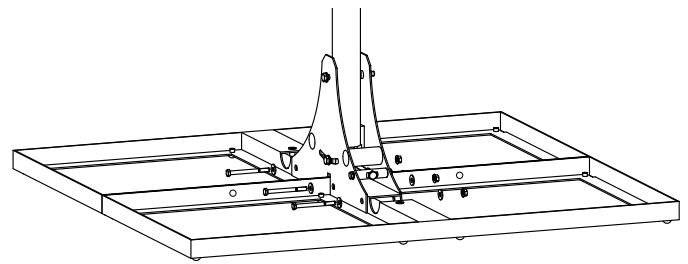

Abb. 3: Attaching the mast foot
2. Place the mast with the tripod onto the two frames so that the openings in the cross-parts of the frames are next to the openings in the mast foot (Fig. 3).
3. Insert 4 screws M8 x90 mm into the openings in the mast foot and into the separating walls (Fig. 3).
4. Tighten the screws with a torque of 25 Nm (Fig. 3).